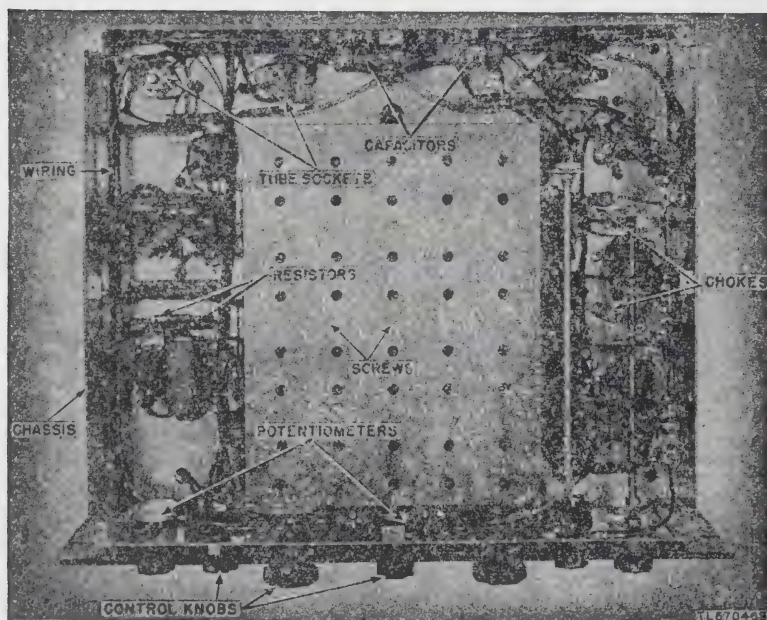

Figure 18. Radio receiver, typical preventive maintenance items, bottom view of chassis.
48. Item 5, Interior of Receiver (fig. 18)